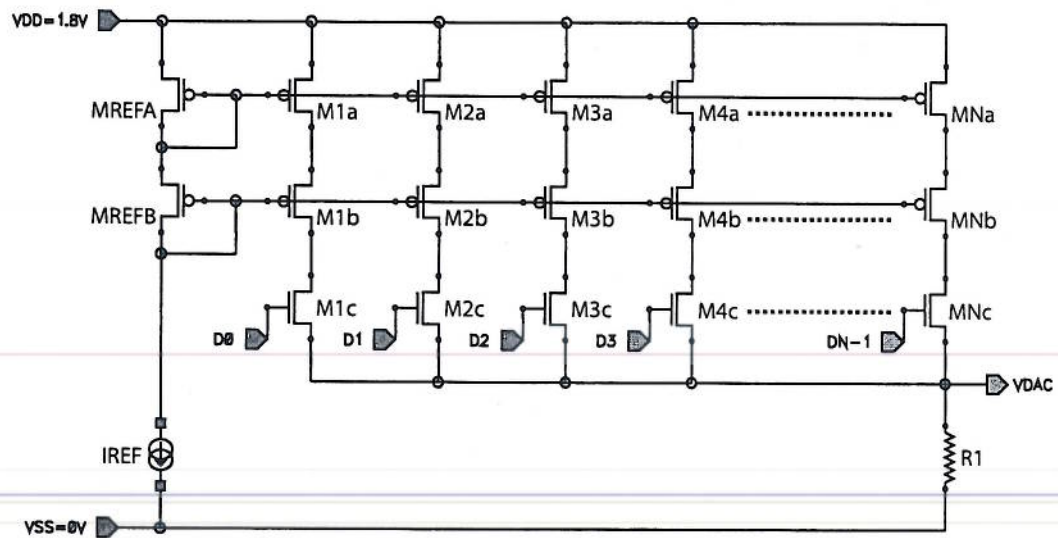

Figure 3.1
3. The design of a N-bit binary-weighted current-steering Digital-to-Analogue (DAC) converter is shown below in Figure 3.1. is to be implemented in a standard 0.18 μ m CMOS technology.